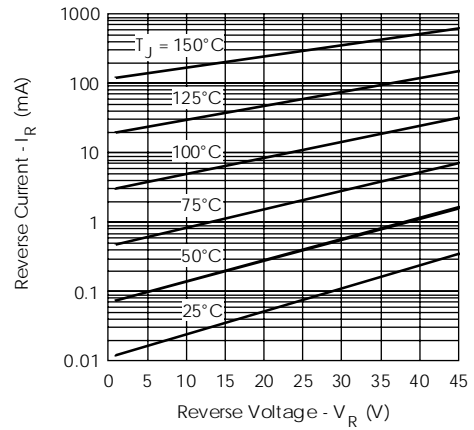

Fig. 2 - Typical Values Of Reverse Current Vs. Reverse Voltage (Per Leg)
| $I_{RM}$ Max. Reverse Leakage Current (Per Leg) * See Fig. 2 (1) | 5      | mA               | $T_J = 25^\circ\text{C}$  |